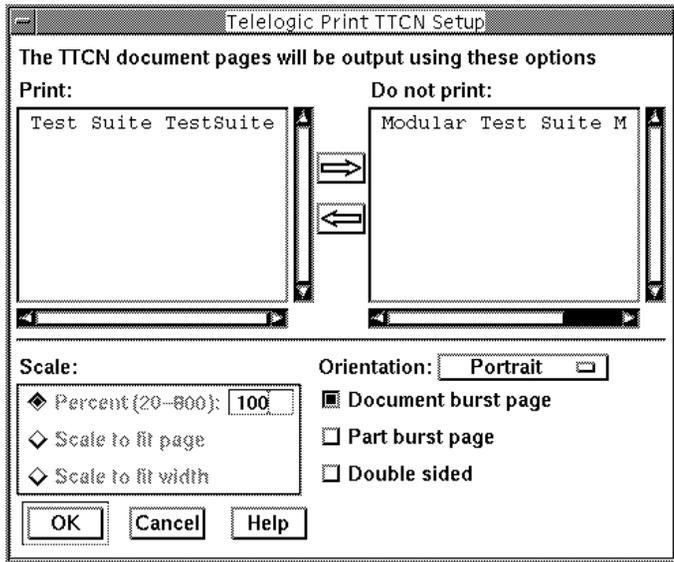

Figure 87 The Organizer Print TTCN Setup dialog
- *Print TTCN Setup* dialog in the Organizer, see Figure 87.